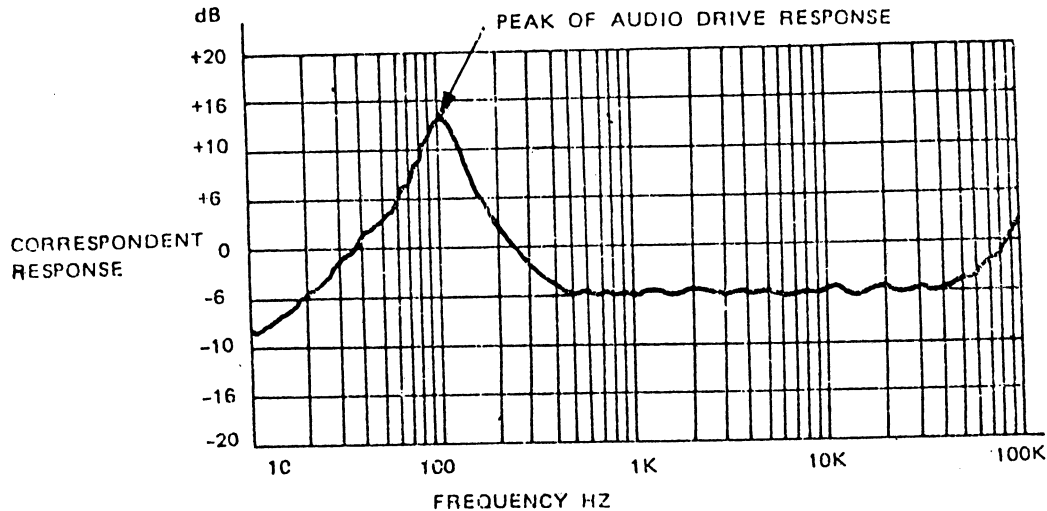

Figure 11
- (3) When testing speaker, if there is a peak volt value, when in low-freq. this must be the resonant freq. (f_0) of this speaker, see Figure 11. Whether installation may cause any effect to this frequency or not? The proper design of case-installation will cause two small ramp on both sides of this sharp ramp.